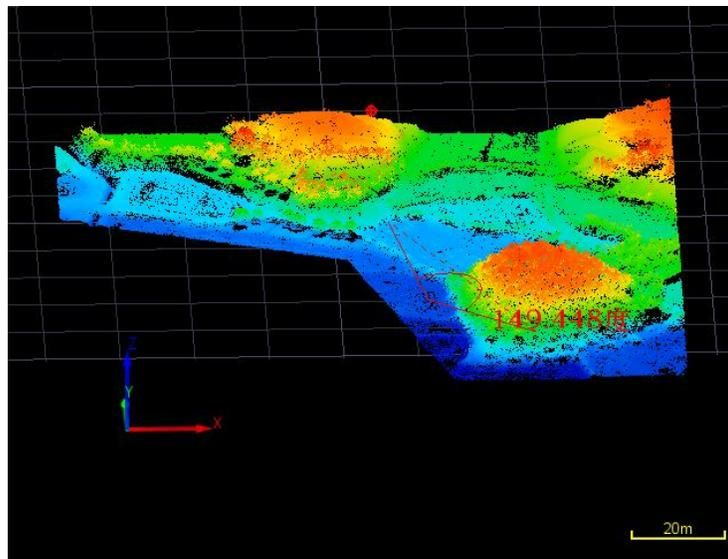

Figure 3-100 Measuring Angle
- (1) Click the menu <Tools> → < Measure Angle >.
- (2) Click the left mouse button in the view to select the two points where the angle needs to be calculated, and then draw an angle line (Figure 3-100), the drawn angle value is displayed in real time on the view.
- (3) Cancel: click < Measure Angle > again.